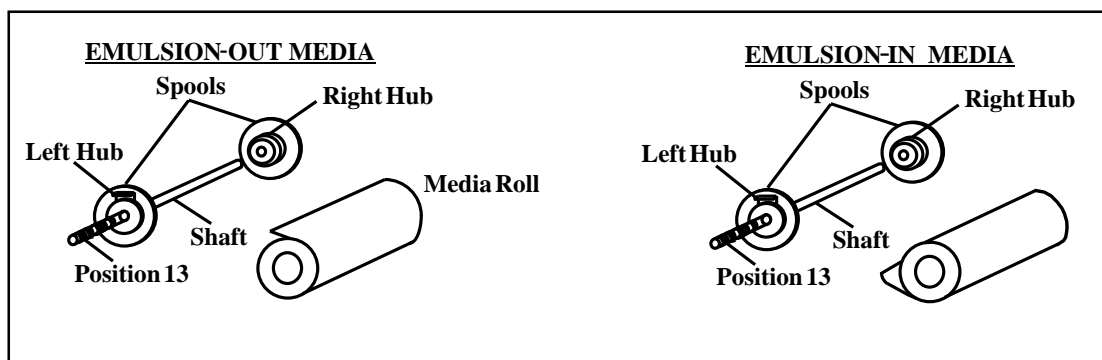
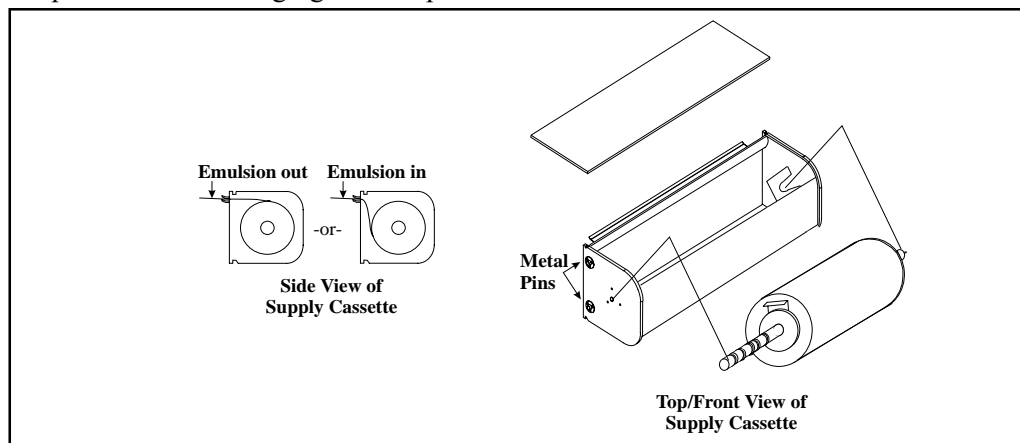

Figure 3-3 Loading Plate Media on Spool
Figure 3-4 Loading Film on Spool
4. Adjust the left hub on the spool shaft to match the edge guide position by squeezing the clip and sliding on shaft. Remove the right hub from the shaft by lifting clip and sliding off the shaft. Slide media onto shaft. Slide the right hub onto shaft by lifting clip and pushing down on spool until spool is tight against media (see Figure 3-3).
4. Open the feed cassette by lifting the back of the lid and sliding forward at the same time. (See figure 3-4). Remove the spool assembly. Adjust the left hub to match the edge guide position by squeezing the clip and sliding on the shaft. Remove the right hub from the shaft by lifting the clip and sliding it off the shaft. Slide the film onto the shaft. Slide the right hub onto the shaft by lifting the clip and pushing down on the spool until the spool is tight against the film (see Figure 3-3). Insert the loaded spool assembly back into the feed cassette with 12" of film remaining outside the cassette.